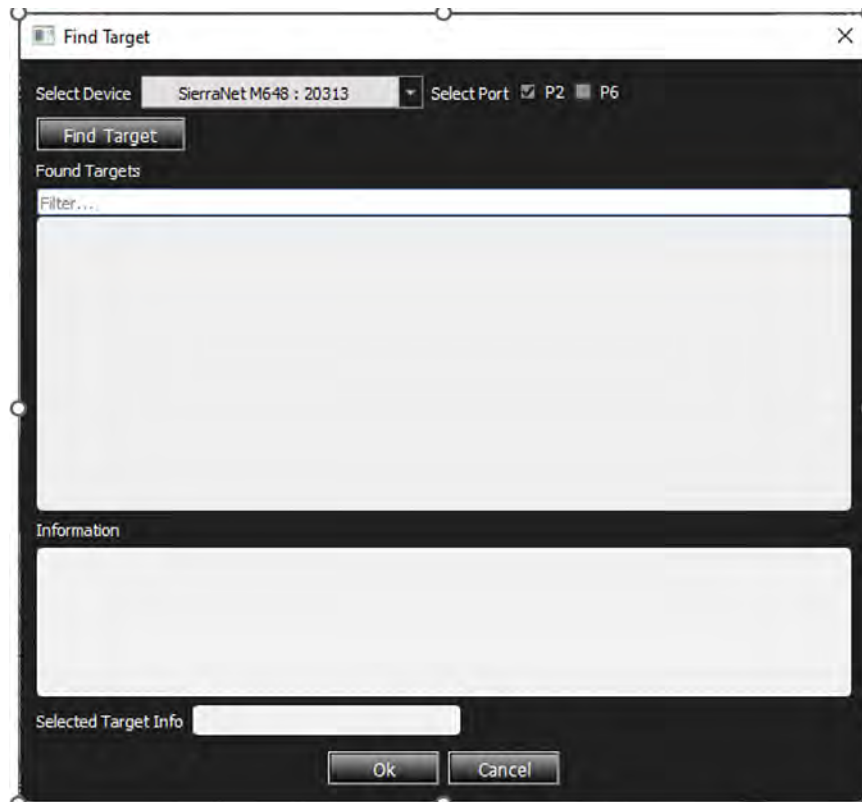

Figure 8.41: Find Target Dialog
2. In the **Select Target to Map** drop down menu, click <Find Target...>. This opens the Find Target dialog box, as shown in Figure 8.41.
4. **Select Port:** Check the specific ports to find the targets. For example, Figure 8.41 shows P2 checked because there is a fabric connected only to P2.